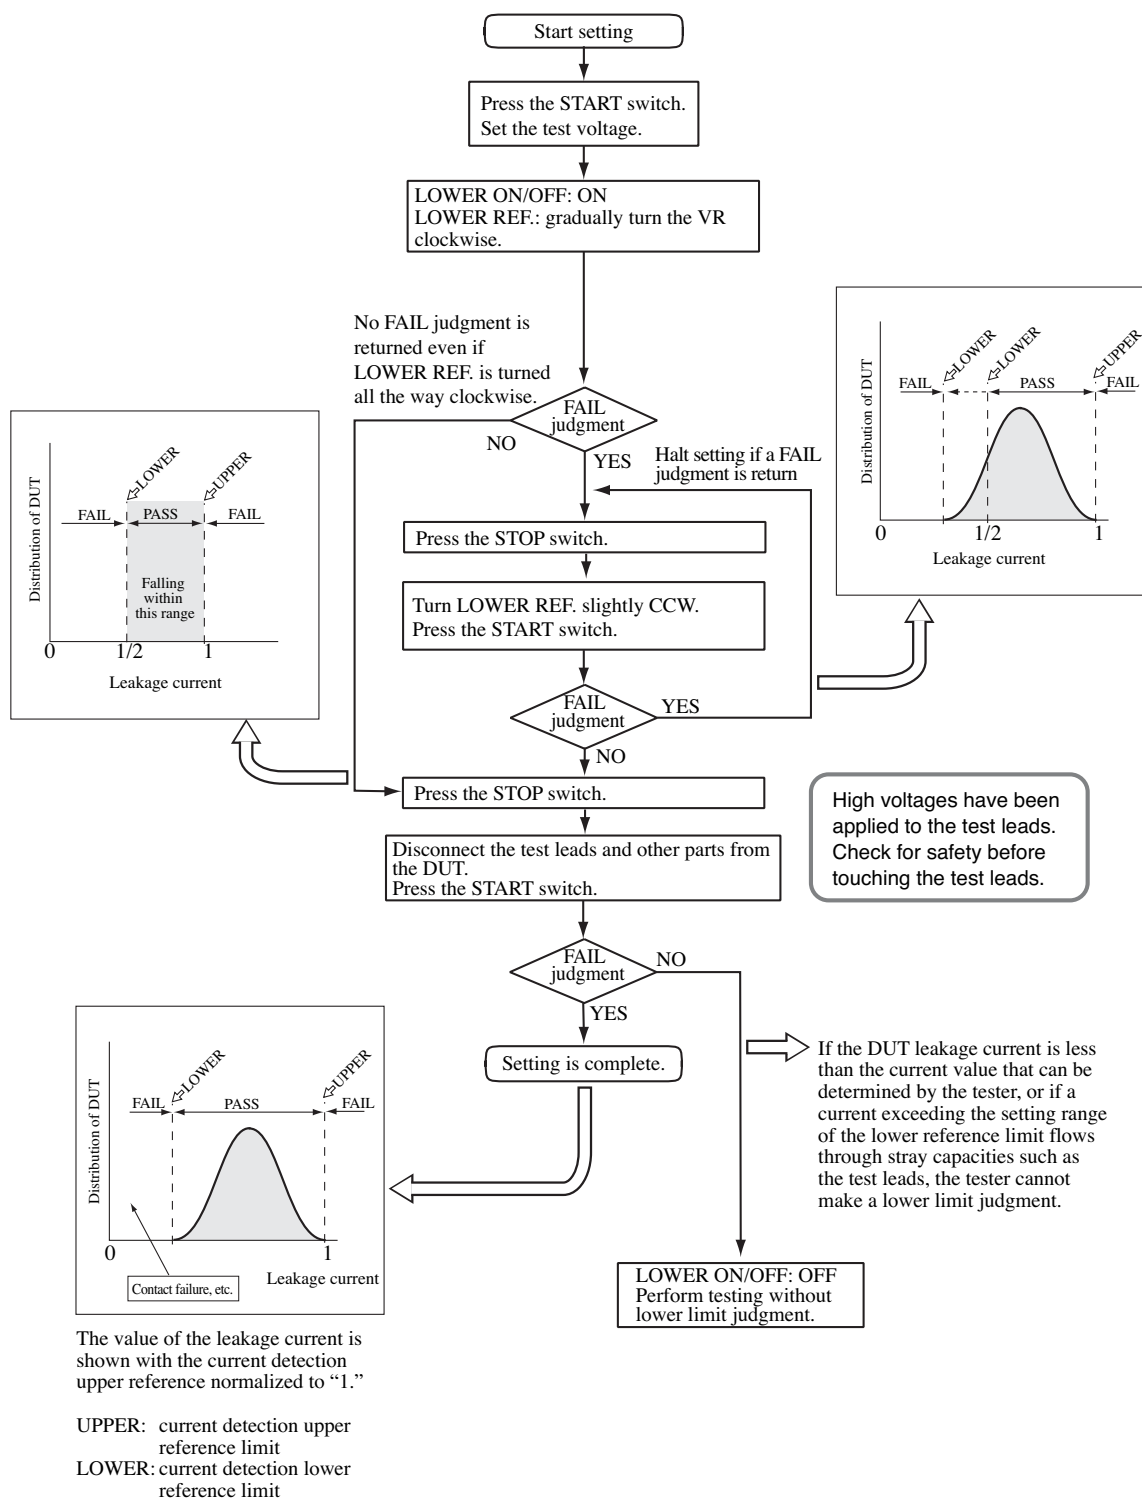

Fig. A-3 Flowchart for Setting the Current Detection Lower Reference Limit
4. Set the lower reference limit as indicated in the flowchart in Fig. A-3.